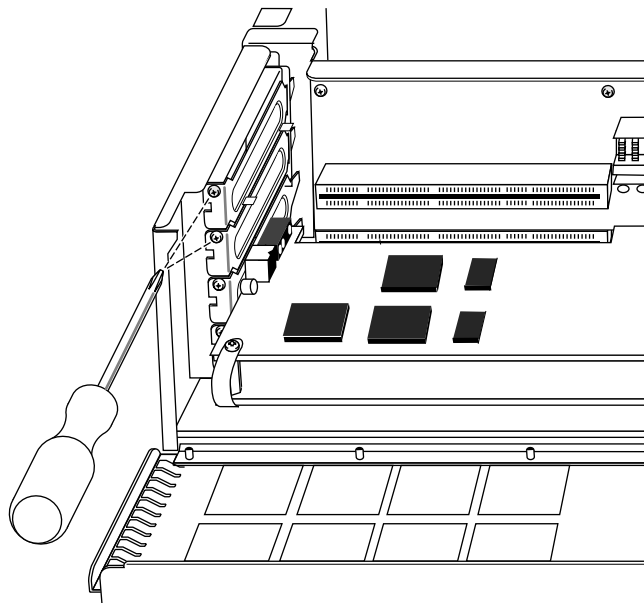

Figure 4-8 Removing the Screws From the Metal Port Covers
2. Remove the screw that attaches the blank I/O panels to the board slots above your High IMPACT board set. See Figure 4-8.